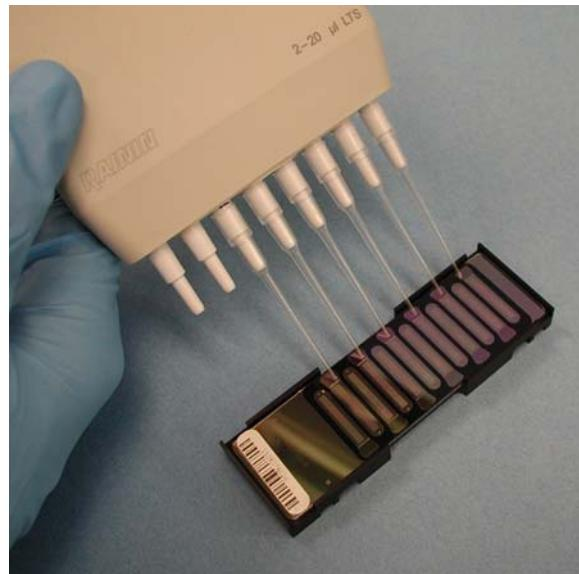

Figure 36 Loading Samples A1–F1
- a. Load samples A1–F1 from the MSA2 plate into the left side of the BeadChip (Figure 36).